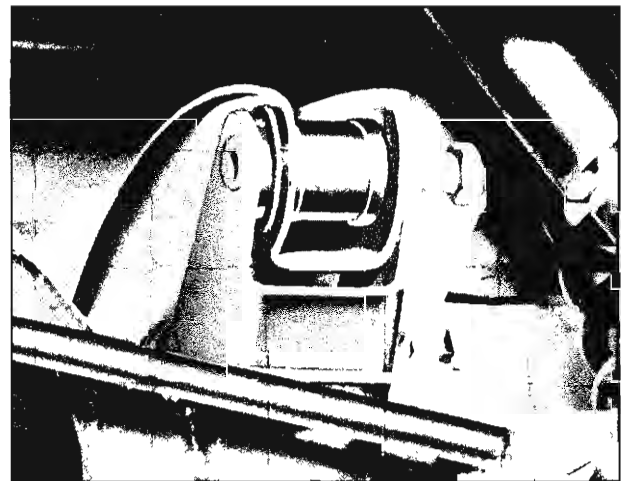

Fig. 29—Installing Upper Control Arm to Axle Housing Bracket
5. Set the control arm (with front bracket installed) on the axle housing bracket and tap into place (fig. 29). Install the bolt (the head of the bolt must be towards the outboard side), lockwasher and nut but do not tighten.